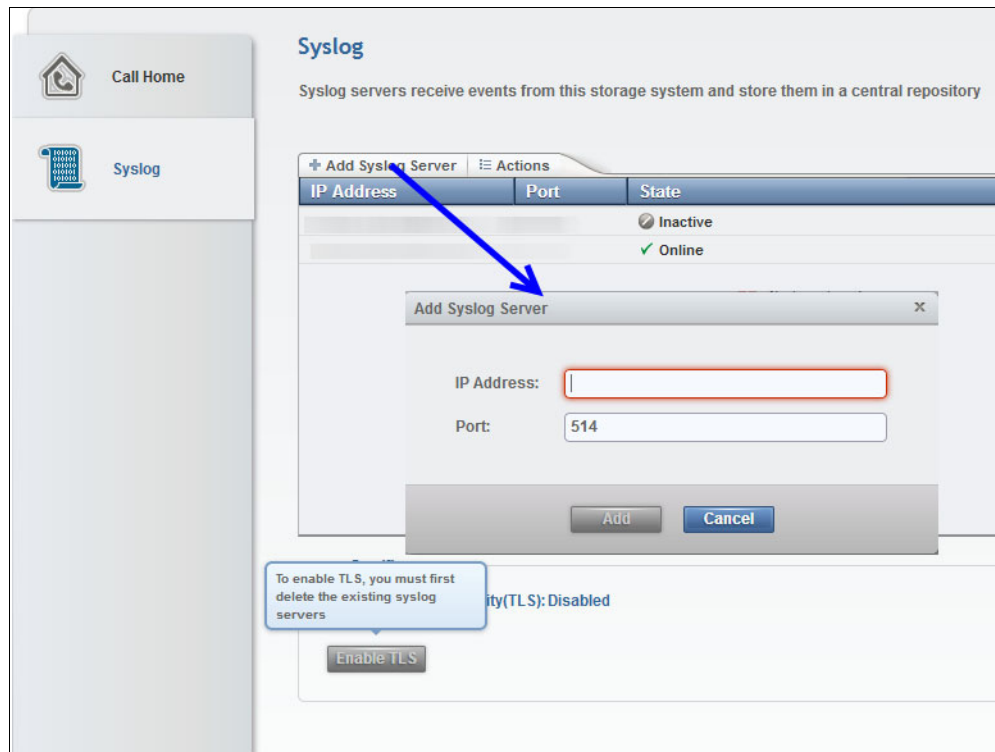

Figure 11-31 Syslog Settings window
2. On the Notifications window, select **Add Syslog Server**. You will receive a warning to enable TLS first before adding any SysLog server, see Figure 11-31.
6. Enter the following parameters to add the SysLog hosts as shown in Figure 11-31: